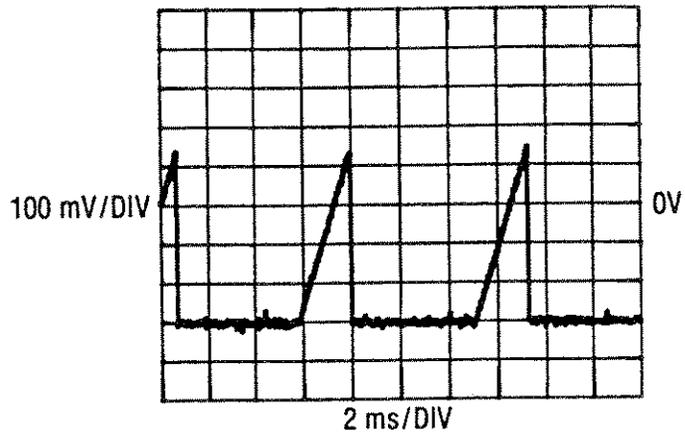
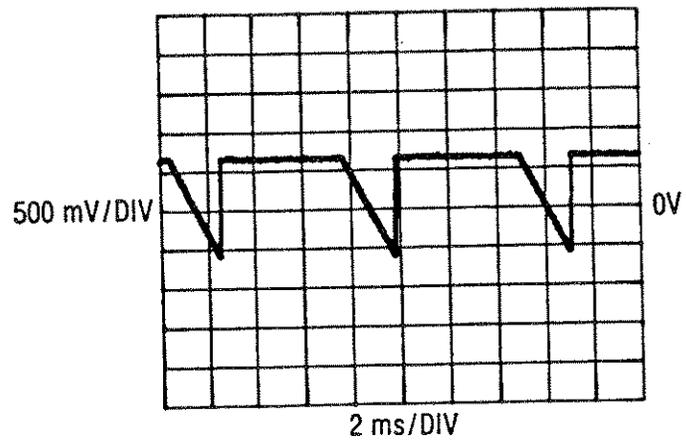
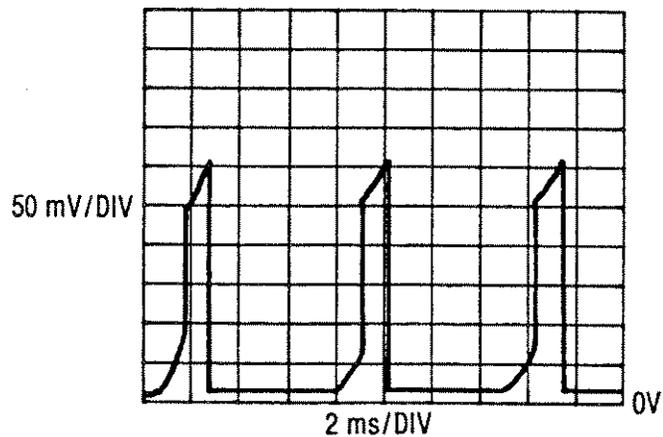

Figure 8-35.
Figure 8-36.
Figure 8-37. Recorder Output Test Signal
2. Compare the oscilloscope display with Figure 8-35.
If the displayed waveform is the same as Figure 8-35, the circuit is operating properly. If the Fault Isolation Procedure is being performed and the circuit is operating properly, go to the Gain DAC, Buffer and Gain Compensation Test.
If the displayed waveform is not the same as Figure 8-35, compare the waveform at A5U5 pin 4 with the waveform in Figure 8-36.
2. Compare the waveform on the oscilloscope with the waveform in Figure 8-37.
3. If the displayed waveform is the same as Figure 8-37, the Gain DAC, Buffer and Gain Compensation circuits are operating properly. If the Fault Isolation Procedure is being performed and the circuits are operating properly, go to the Miscellaneous Buffer Test.
4. If the displayed waveform is not the same as Figure 8-37, connect the oscilloscope to A5U3 pin 15 and compare and display to Figure 8-35.
If the displayed waveform is not the same as Figure 8-35, perform the Offset Removal DAC, Buffer and Gain Compensation Test.
If the displayed waveform is the same as Figure 8-35, go to step 5.